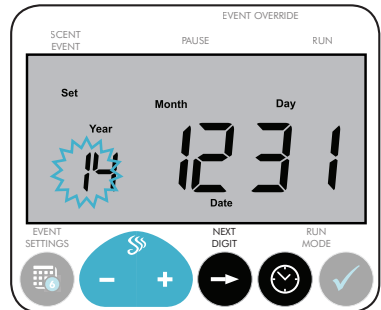

Fig. 14: This is the screen shown for editing the date.
2. Press the CLOCK button again to move to edit the date. The first digit of the year slot will flash. **(Fig. 14)**